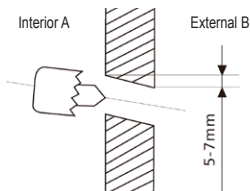

fig. 12 -
5. Drill a Ø65 mm hole (or Ø90 mm depending on the model) in the wall ("fig. 12 -"), slightly sloping downwards towards the outer part, starting to drill from one side of the wall (A) and ending with the opposite side (B) to prevent the actual wall from breaking.